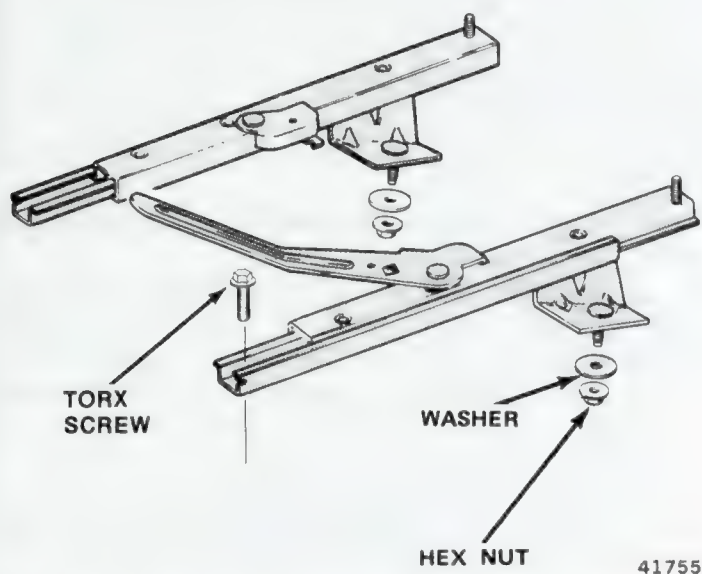

Fig. 3M-3 Front Seat Adjusting Slides—Gremlin-Concord-AMX
(1) Where front center seat belts go through the seat assembly, remove seat belt-to-floorpan shoulder bolts using Torx Bit Tool J-25359-02.
(2) Disconnect seat belt wiring harness, if equipped.
(3) Move seat assembly to the full rear position on the adjusting slides to gain access to the front screws (fig. 3M-3). Remove front attaching screws using Torx Bit Tool J-25359-02.
- (4) Remove nuts and washers attaching adjusting slides to floorpan from underneath.
- (5) Remove seat assembly from car.